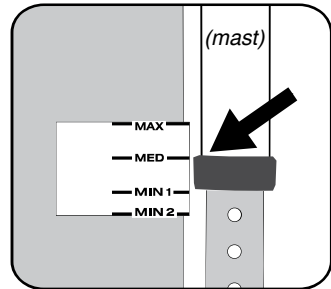

Figure 3: Move the calibration gauge so the medium mark lines up with the bottom of the mast.
d) Next, move the downhaul gauge at the bottom of the sail so that the medium mark of the gauge lines up with the bottom of your mast (figure 3).